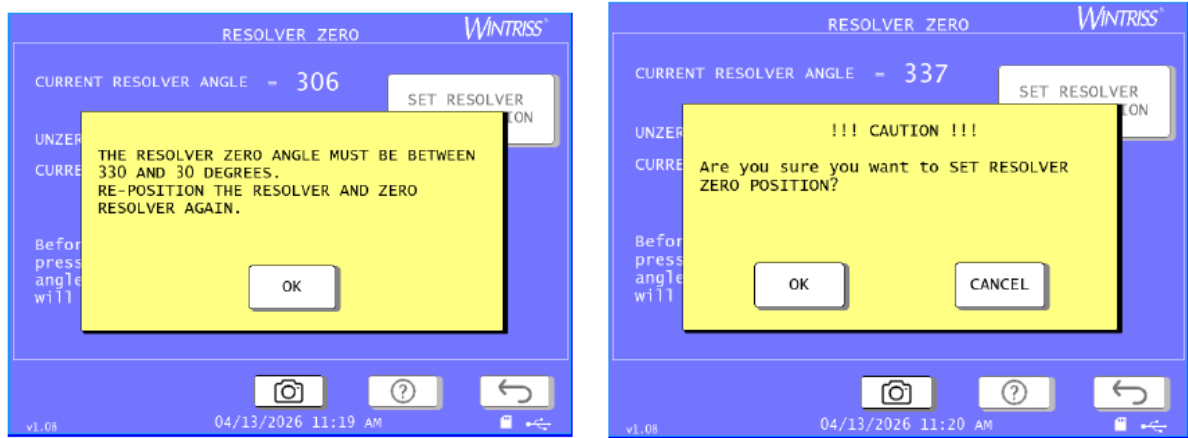
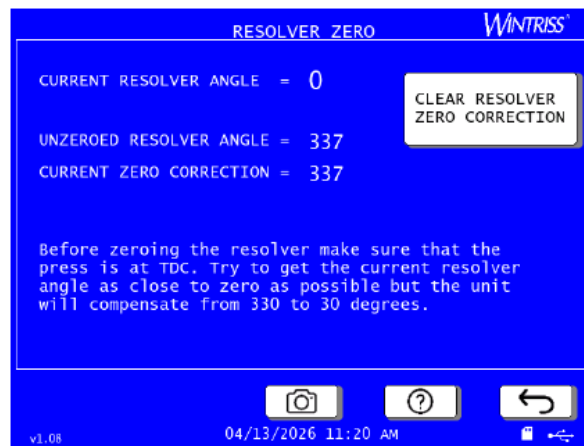

Figure 3-6. Resolver Zeroing Alert (left) and Caution/Confirmation Screens
Figure 3-7. Resolver Zero Screen with New Values
- If the resolver angle is not within range, an alert window opens (Figure 3-6, left) instructing you to re-position the resolver and zero it again.
- If the resolver angle is set correctly, a caution/confirmation window opens, Figure 3-6, right. Press OK to continue with zeroing the resolver. Press CANCEL to quit. WPC APEX electronically adds or subtracts the offset and shows the Resolver Zero screen with the new values, Figure 3-7.